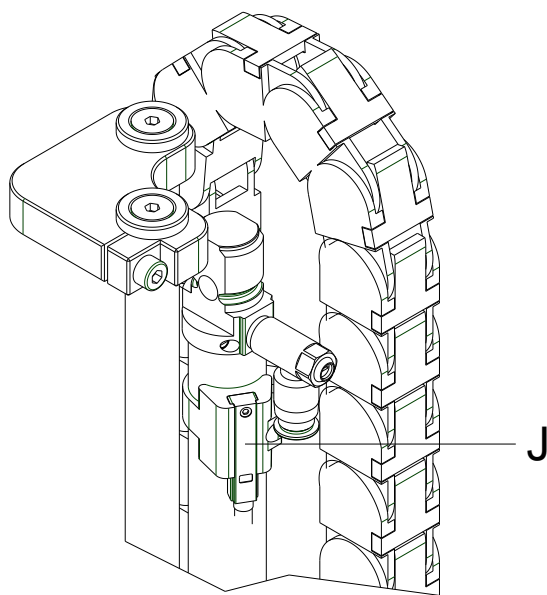

Figure 17
2. Loosen the screws (C).
3. Remove the sensor holder (D) with the sensor (A).
4. Remove the screws (B).
5. Remove the screws (G) in order to loosen the energy track (F) on one side.
6. Detach the T-shaped parts (I) hooked together from the U-shaped parts (H) of the energy track (see Figure 17).
7. Pull out the sensor (A) from the energy track (F).
8. Remove the plug (L) of the sensor (A) from PCB (K).
9. Connect the new sensor (A) with the PCB (K).
10. Insert the new sensor (A) in the energy track (F).
11. Close again the energy track (F). In order to do so, press the T-shaped parts (I) into the U-shaped parts (H).
12. Mount again the energy track (F) and tighten the screws (G).
13. Mount the sensor (A) with screws (B) at the sensor holder (F).
14. Install the sensor holder (D) with the screws (C) at the guiding plate (E).